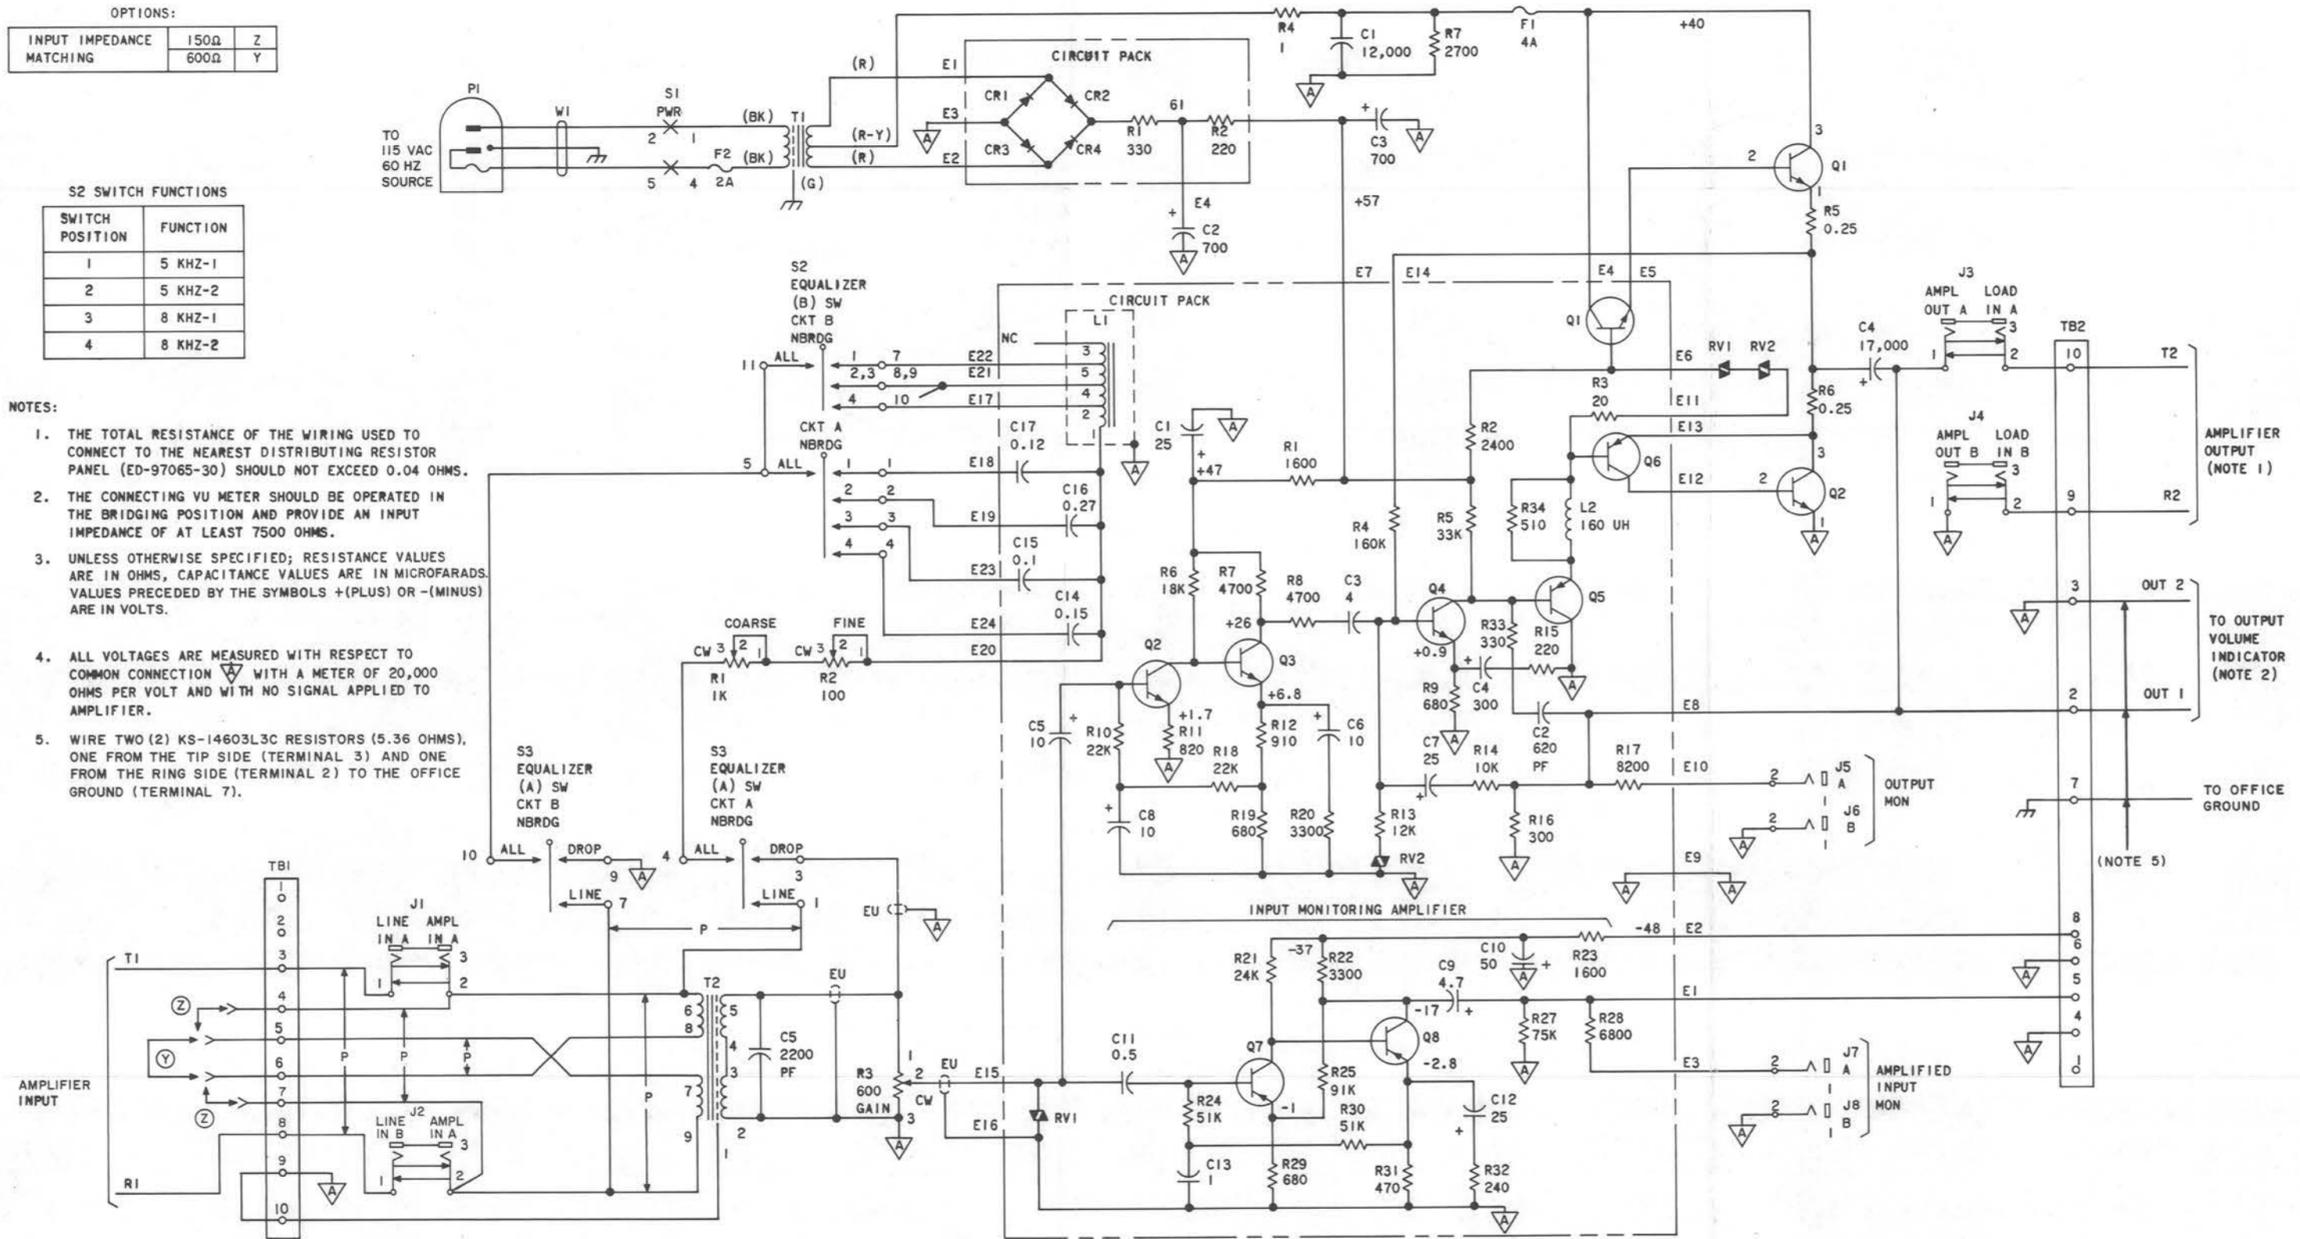

Fig. 5—Schematic of KS-20425 L1 (Manufacture Discontinued) Amplifier System
2.02 External connections and strapping to the KS-20425 L1 (Manufacture Discontinued) should be made to TB1 and TB2, located on the rear of the amplifier, as shown in Fig. 5.